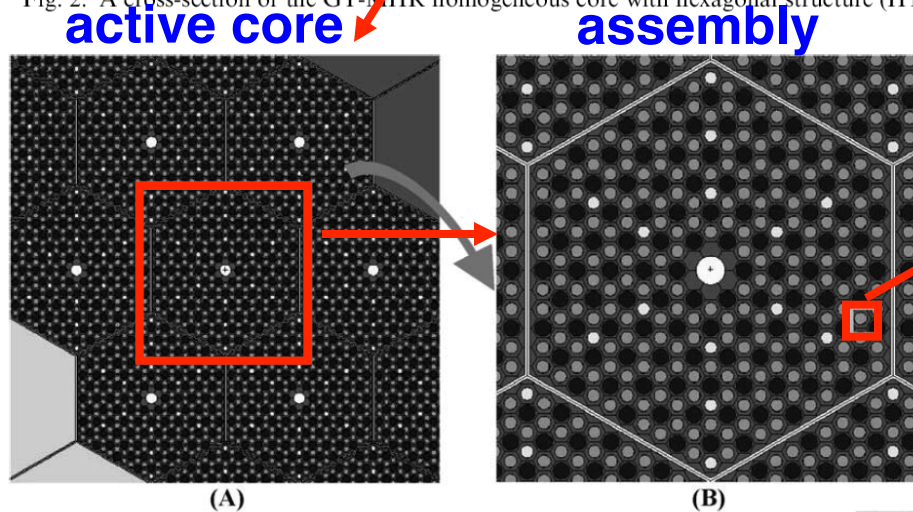

Fig. 4
Fig. 4. Fragments of double-heterogeneous GT-MHR (HTR3): (A) fuel element (compact) cross section with coated fuel particles; (B) magnified view of coated fuel particles: spherical kernels of PuO_{2-x} are surrounded by protective coatings made of PyC_{buffer}, PyC I, SiC and PyC II layers correspondingly. The same structure is valid for particles containing burnable poison—natural Er₂O₃.